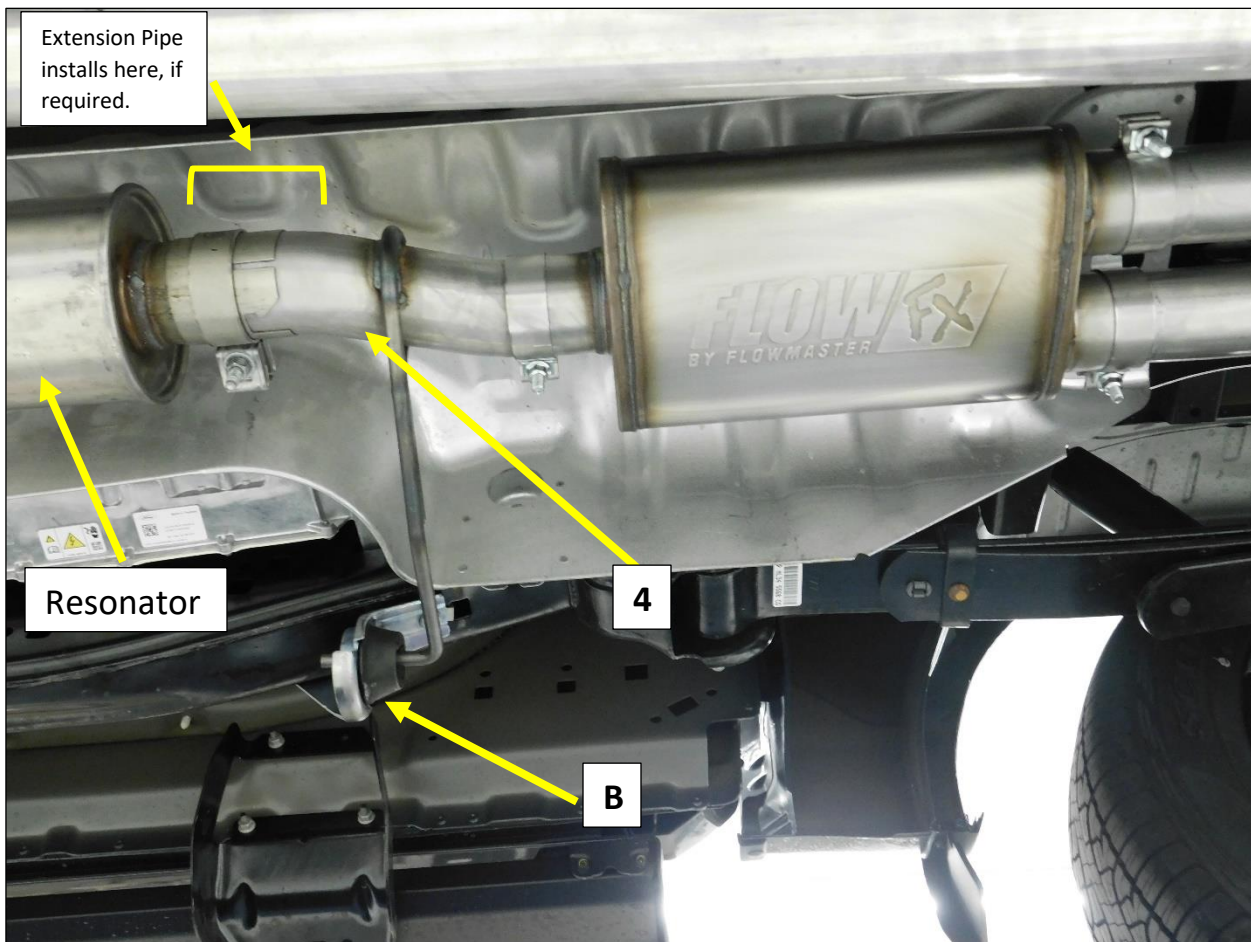

Figure 8
1. Install the muffler inlet pipe (4) into the resonator. **Fig. 8**
2. Install the muffler frame hanger (B) on to the inlet pipe hanger rod. Install the (x3) bolts and tighten. **Fig. 8**
3. Tighten the OEM clamp at the resonator to allow for adjustment. **Fig. 8**